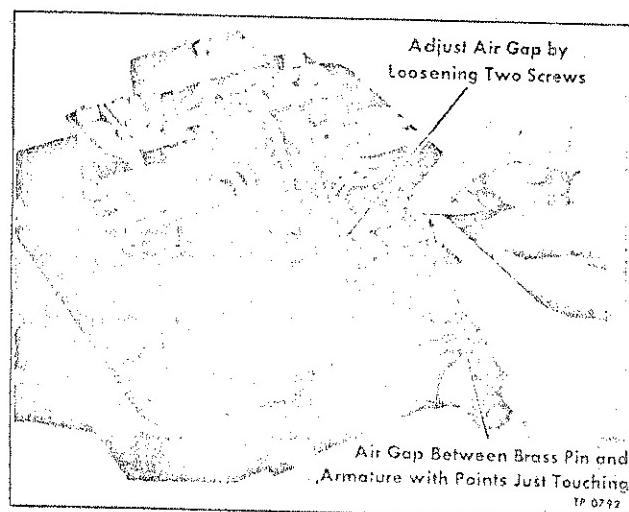

Figure 4—Voltage Regulator Air Gap Check and Adjustment
1. Press armature down until contact points touch, then measure air gap between armature and brass residual pin in core (fig. 4). This dimension should be as listed under "specifications" later in this section.
2. If air gap requires adjustment, loosen two adjusting screws (fig. 4) holding lower contact bracket. Adjust bracket up or down until gap is as specified under "Specifications" later in this section. Be sure screws are tightened well after adjustment.